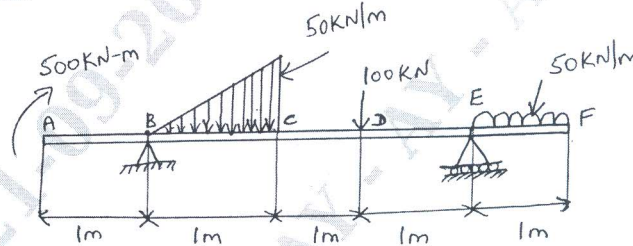

Fig.Q6
- 6 Draw SFD and BMD for the beam shown in Fig.Q6. Locate maximum bending moment and point of contraflexure.